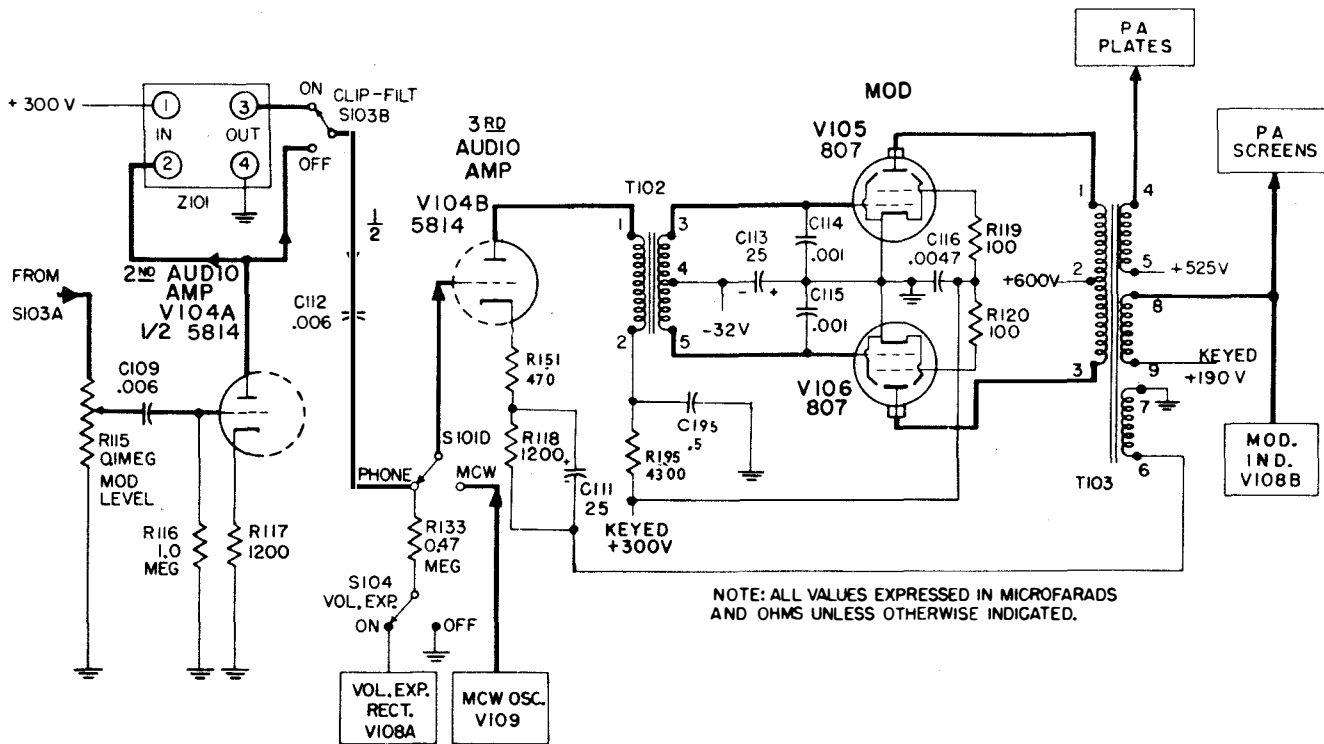

Figure 2-6. Second and Third Amplifiers and Modulator Stage, Simplified Schematic Diagram
The circuit of this stage appears in figure 2-6. V104A, one triode section of a 5814, functions as a conventional Class A voltage amplifier. Cathode bias is provided by R117, which is unbypassed to introduce a small amount of degenerative feedback. The plate load consists of filter Z101. When CLIP-FILT switch S103 is OFF, output from V104A is obtained directly from the plate of the tube, with Z101 having no effect upon the signal other than functioning as the plate load. When S103 is in the ON position, the audio voltage is taken from the output terminals of Z101.
(5) **THIRD AUDIO AMPLIFIER.**—The input to the third audio amplifier, V104B, is provided by one of two sources, as indicated in figure 2-6. When switch S101 is in the PHONE position, speech input is coupled to the grid via C112. With S101 set to MCW, the 1,000-cps tone from the MCW oscillator is applied to the stage.
(6) **MODULATOR STAGE.**—Two 807 beam-power tubes (V105 and V106) are operated in push-pull as a Class AB₁ modulator stage; see figure 2-6. Bias is provided from the negative 32-volt tap of the bias bleeder network, and is fed to the center-tap on the secondary of T102. Since the stage is operating Class AB₁, no grid current flows and very little loading of the third audio amplifier occurs. C113 serves to hold a constant bias on the tubes by keeping the center-tap of T102 secondary at a-c ground potential. Capacitors C114 and C115, connected from the grids to ground, attenuate the higher voice fre-